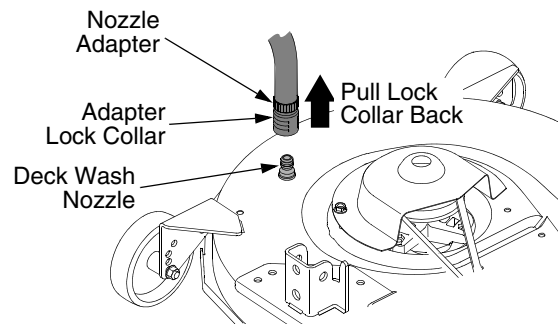

Figure 54
- Pull back the lock collar of the nozzle adapter and push the adapter onto the deck wash nozzle at the left end of the mower deck. Release the lock collar to lock the adapter on the nozzle. See Figure 54.